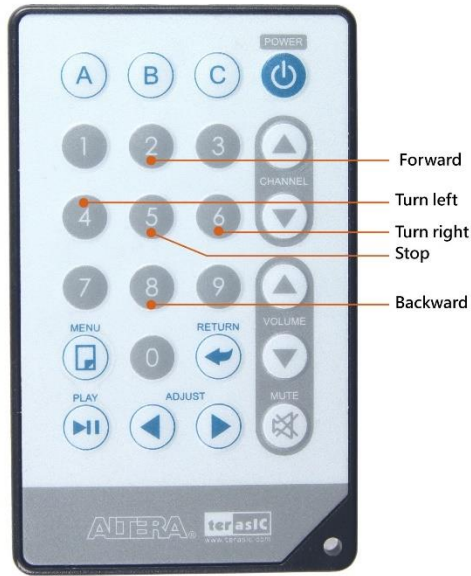

Figure 5-17 Robot remote control
Figure 5-17 shows the remote control for the robot, point IR remote control to the robot, the robot will move forward when users press key 2, the robot will stop moving when user press key 5. The key 8 is used to move the robot backward, key 4 is used to turn the robot to the left, and key 6 is used to turn the robot to the right. Table 5-1 shows the functions of each key number on the controls.